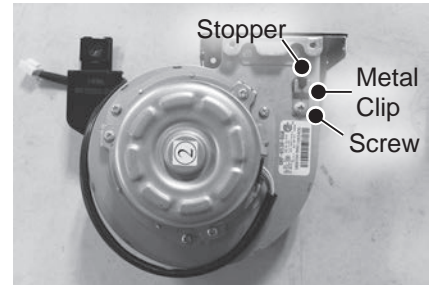

Figure 107 - Stopper installation
- 27 Remove the screw securing the metal clip and stopper to the old fan assembly. Place screw in a safe place for reinstallation. See Figure 107.
- 28 Using the new metal clip, secure the new stopper to the new fan assembly with the screw removed in **Step 27**. See Figure 107. Dispose of old fan assembly properly.